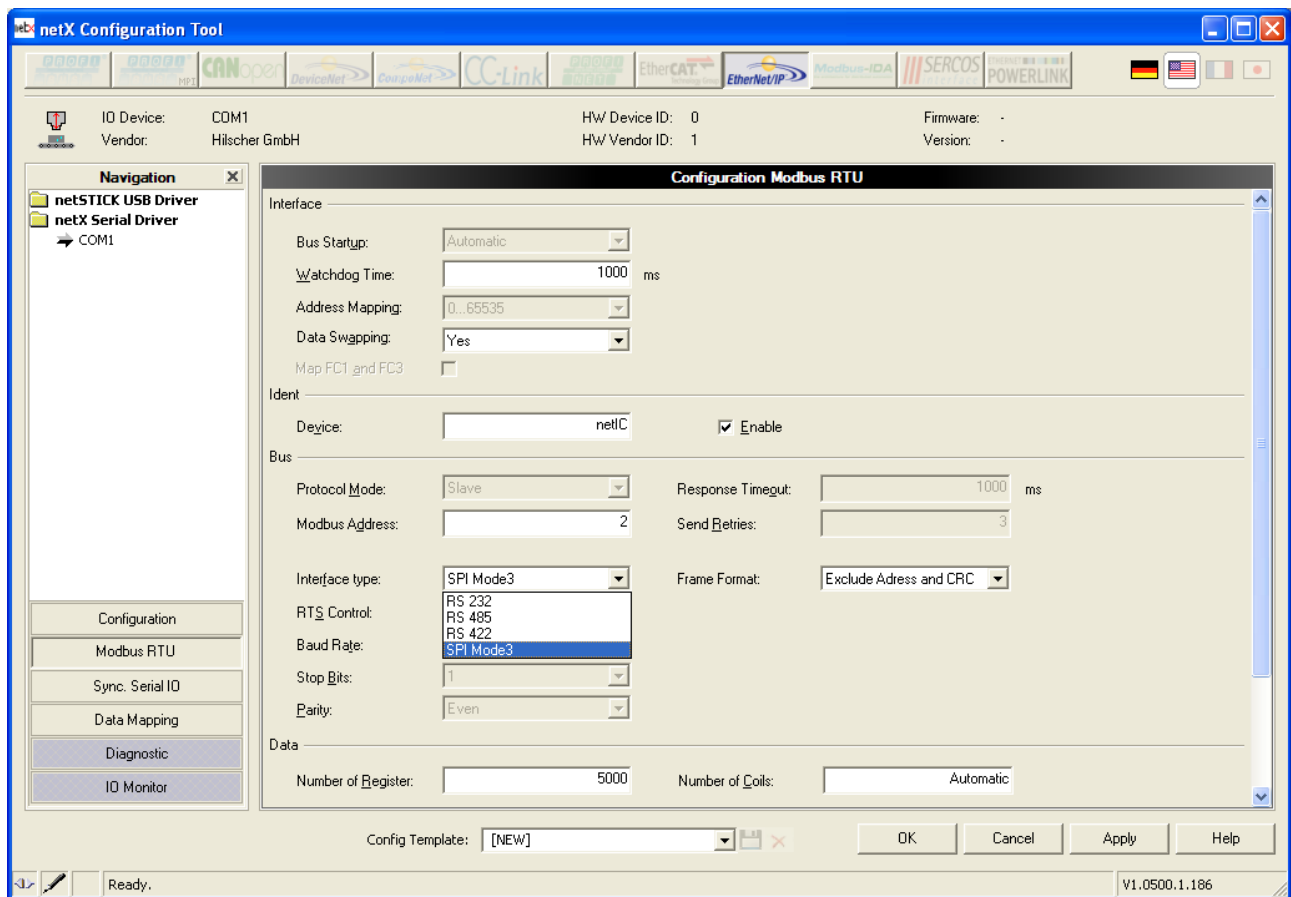

Figure 86: Modbus RTU Configuration Page in netX Configuration Tool - Parameter "Interface Type"
- In netX Configuration Tool, switching to SPI Mode is done by selecting the option **SPI Mode 3** instead of RS232, RS422 or RS485 within the combo box of the parameter **Interface Type** in the Modbus RTU Configuration Page of the netX Configuration Tool. This combo box is displayed in opened state in *Figure 86*.